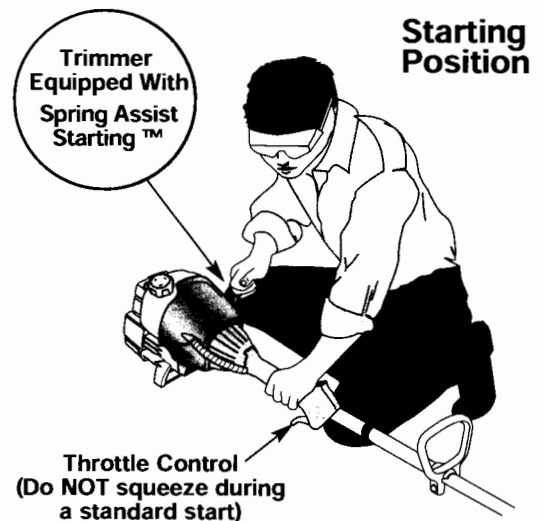

Fig. 8
WARNING: Avoid accidental starting. Make sure you are in the starting position when pulling the starter rope (Fig. 8). To avoid serious injury, the operator and unit must be in a stable position while starting.
4. Crouch in the starting position and do not squeeze the throttle control (Fig. 8). Pull the starter rope out with a controlled and steady motion up to 10 times, until the engine starts.